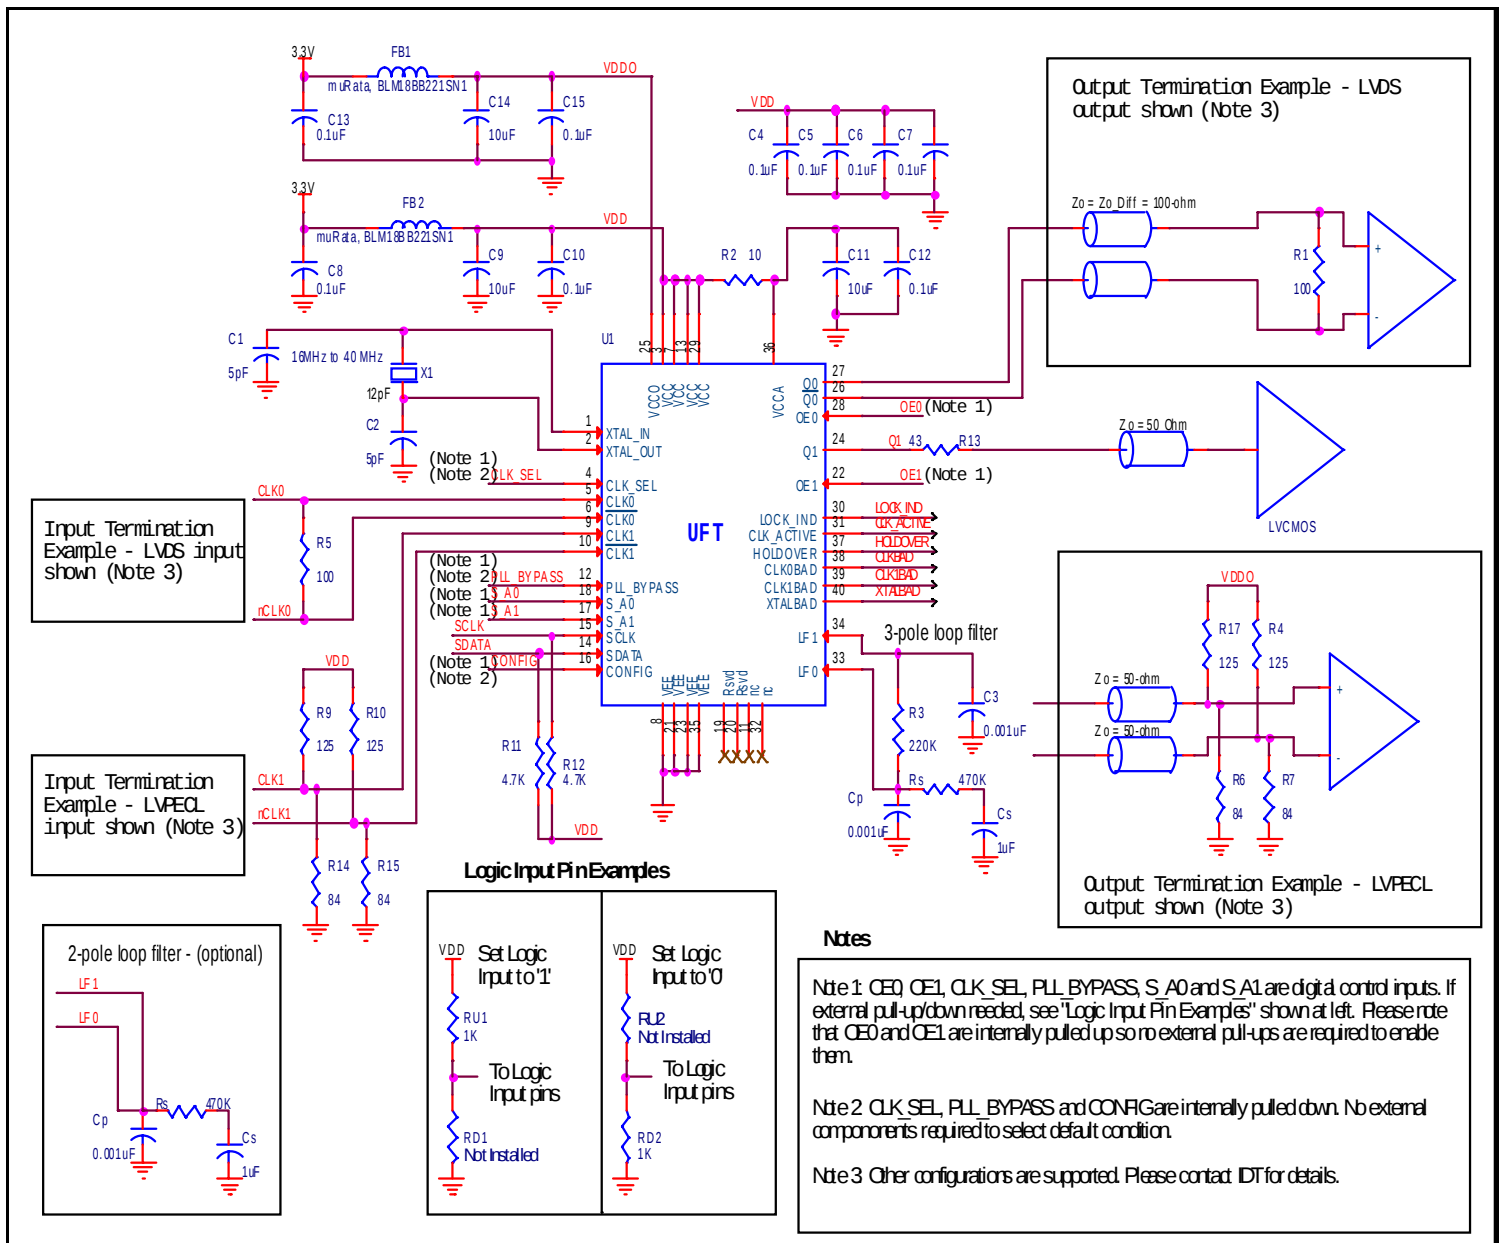

Figure 10. ICS849N212I Schematic Layout
*Figure 10* (next page shows an example of the ICS849N212I application schematic. Input and output terminations shown are intended as examples only and may not represent the exact user configuration. In this example, the device is operated at  $V_{CC} = 3.3V$ . For 2.5V option, please refer to the “Termination for 2.5V LVPECL Outputs” for output termination recommendation. The decoupling capacitors should be located as close as possible to the power pin. A 12pF parallel resonant 16MHz to 40MHz crystal is used in this example. Different crystal frequencies may be used. The  $C1 = C2 = 5pF$  are recommended for frequency accuracy. If different crystal types are used, please consult IDT for recommendations. For different board layout, the  $C1$  and  $C2$  may be slightly adjusted for optimizing frequency accuracy. It is recommended that the loop filter components be laid out for the 3-pole option. This will also allow either 2-pole or 3-pole filter to be used. The 3-pole filter can be used for additional spur reduction. If a 2-pole filter construction is used, the LF0 and LF1 pins must be tied-together to the filter.